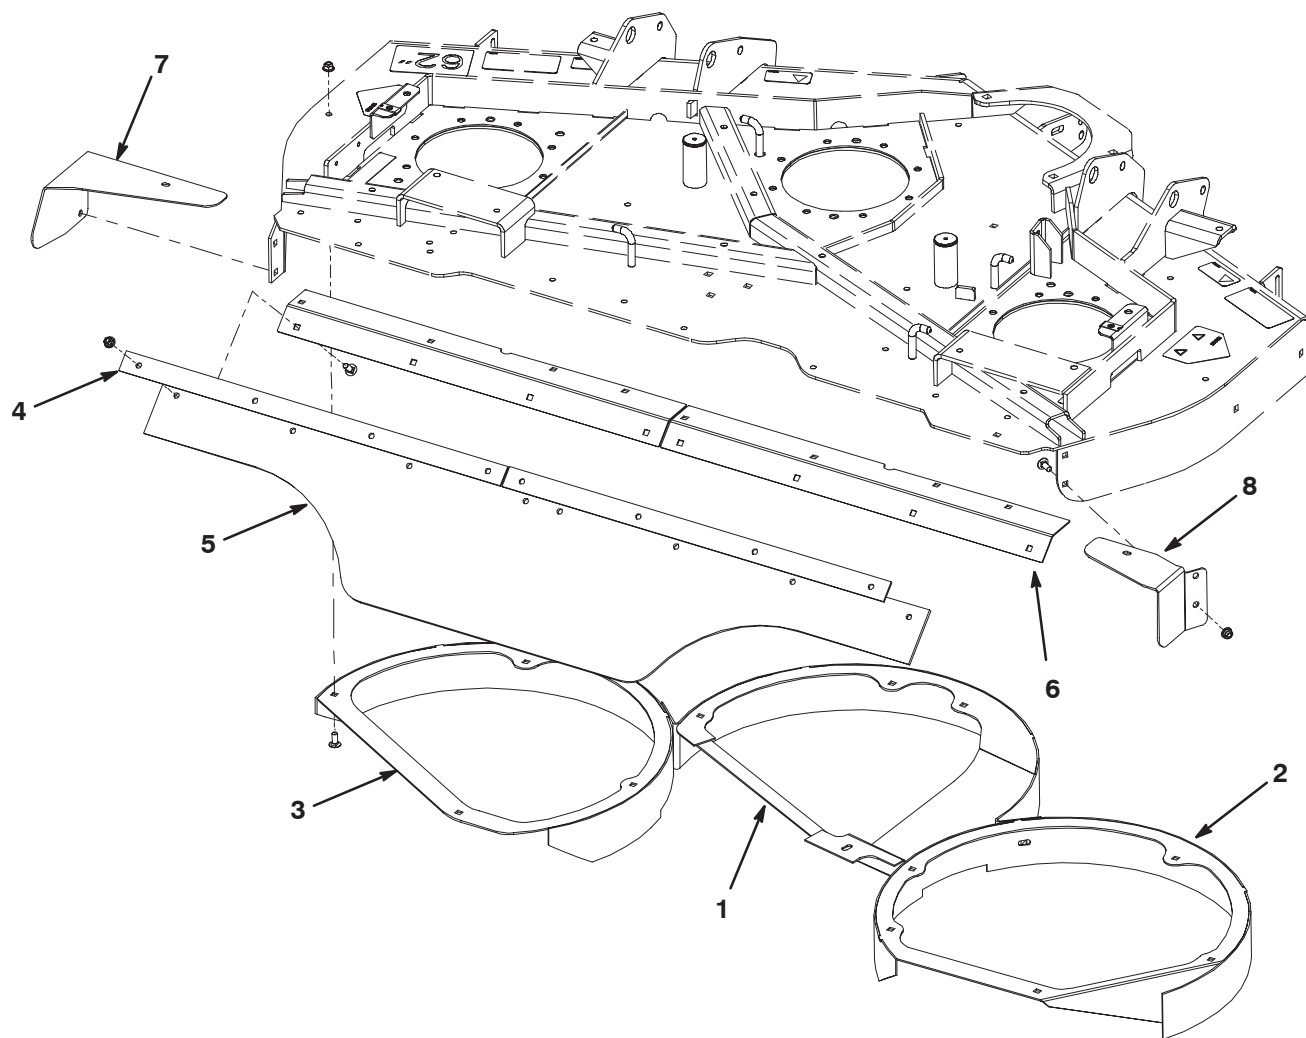

Figure 2
1. Loosely mount the new chambers to the under side of the mower deck with (12) 5/16 x 3/4 in. carriage bolts and flange nuts (4 bolts & nuts per chamber). The bolt heads are to be positioned inside the mower deck. Position the chambers as shown in figure 2.
2. Loosely mount the outer chambers to the center to the center chamber with (2) 5/16 x 3/4 in. carriage bolts and flange nuts
3. Mount the support straps and deflector to the rear angle with (8) 5/16 x 7/8 in. carriage bolts and flange nuts (Fig. 2). The bolt heads are to be positioned next to the rear angle.
4. Mount the rear angle w/deflector to the rear of the mower deck with (8) 5/16 x 7/8 in. carriage bolts and flange nuts (Fig. 2).
5. Mount a foot shield to the top and side of the right rear corner of the mower deck with (3) 5/16 x 3/4 in. carriage bolts and flange nuts (Fig. 2).
6. Mount a foot shield to the top and side of the left rear corner of the mower deck with (3) 5/16 x 3/4 in. carriage bolts and flange nuts (Fig. 2).